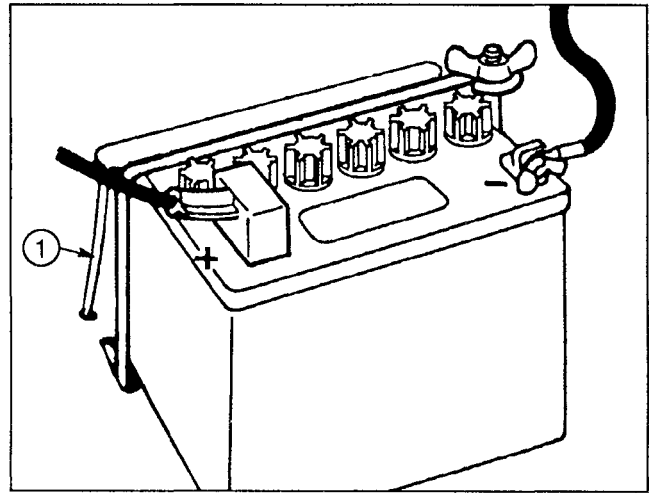

Figure 5
9. Install the battery with the terminal posts toward the rear of the machine and vent tube on left side of battery, thru hole in frame (Fig. 5).
11. Install the positive cable (rubber boot over end) to the positive (+) terminal and the negative cable (black) to the negative (-) terminal of the battery and secure with capscrews and wing nuts. Slide the rubber boot over the positive terminal to prevent a possible short-out from occurring (Fig. 5).